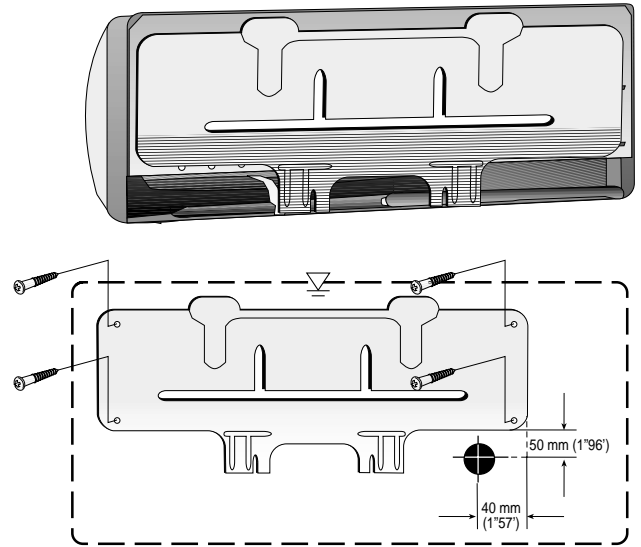

Fig. 4
- Pull out the mounting bracket attached to the back of the unit. See Figure 4.
- Mark the four drilling holes on the wall, as they appear in Figure 4.
- Mark the center of the hole to be drilled shown in Figure 4.